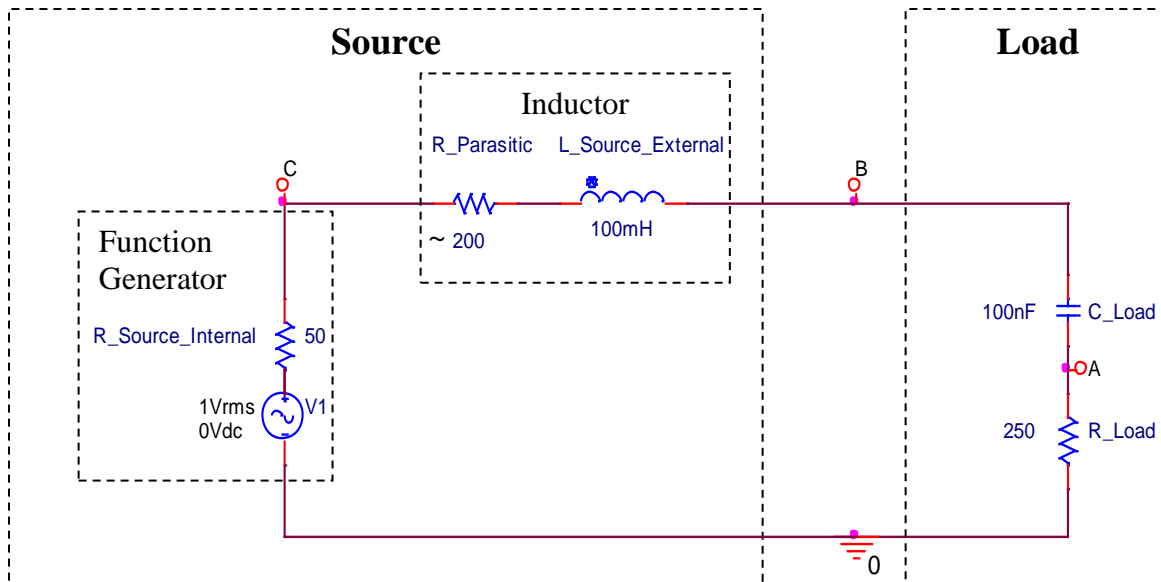

Figure 3
Differential Voltage Measurement: The voltages across the inductor, capacitor and resistor shown in Fig. 3 must be measured carefully. You may NOT simply measure the voltage at points A, B and C and just subtract them to get the corresponding values! This is because you are subtracting complex phasors which have a magnitude and phase angle associated with them and as a result the magnitudes may not simply be added (shown in Equations 4 and 5) and subtracted. For differential voltage measurements the Channel 1 probe is attached to one side of the component being measured across and the Channel 2 probe is attached to the other side. The oscilloscope (when it is configured properly) subtracts the two waveforms as shown in Equations 6 and 7.
2. Measure the actual value of each component in Fig. 3 (R_Load, C_Load, and L) including the parasitic resistance. The parasitic resistance of the inductor may be measured with the DMM attached to your bench.
3. Setup the circuit in Fig. 3 exactly as shown. Do not change the order of the components. You will need a 100 [mH] inductor, 250 [Ω] resistor (use the Decade Resistance Box), and a 0.1 [μF] capacitor. The inductor is associated with the *theoretical source* for this experiment, but you still must place a physical 100mH inductor in the circuit since the Inductor is not actually part of the Function Generator. Do not place a 200 Ω resistor in your circuit **OR whatever the parasitic resistance works out to be**, the parasitic resistance is there to remind you that the inductor has a parasitic resistance. Do not place a 50 Ω resistor in your circuit, this represents the Function Generator output impedance.